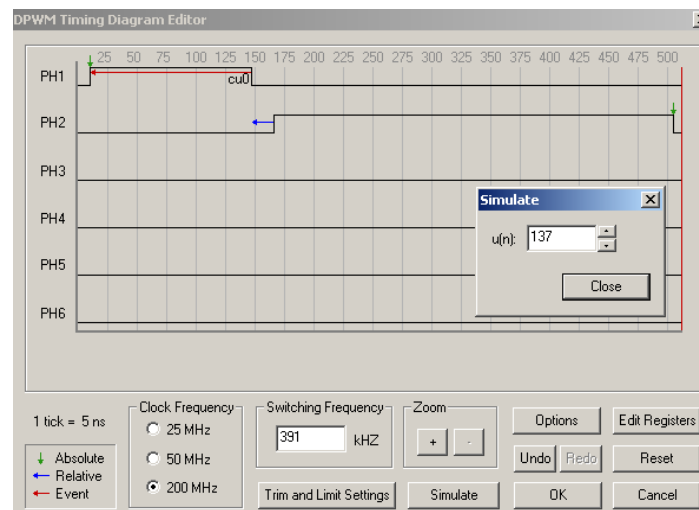

Figure 11. DPWM Timing Diagram Editor—Timing Simulator
- Click the **Simulate** button to display the Simulate Window (see Figure 11). Use the arrows to increase and decrease the value of U(n). Notice that Phase 1's edge should modulate with its absolute edge starting at 10 ticks. Phase 2 should also modulate. However, its rising edge starts relative to Phase 1's falling edge.